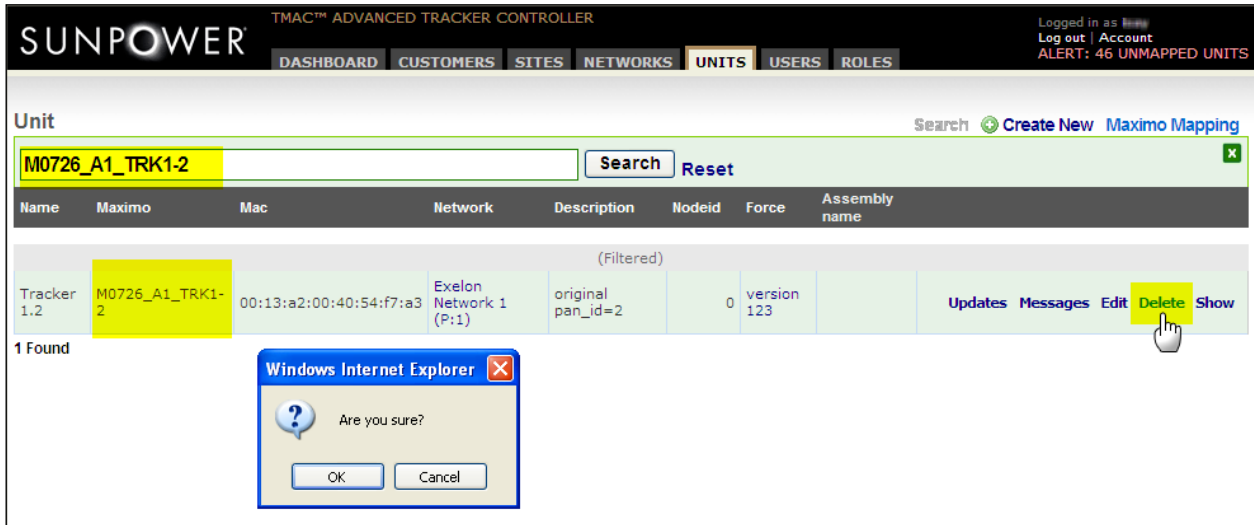

Fig. B76
- Click *OK* in the confirmation window (Fig. B76).